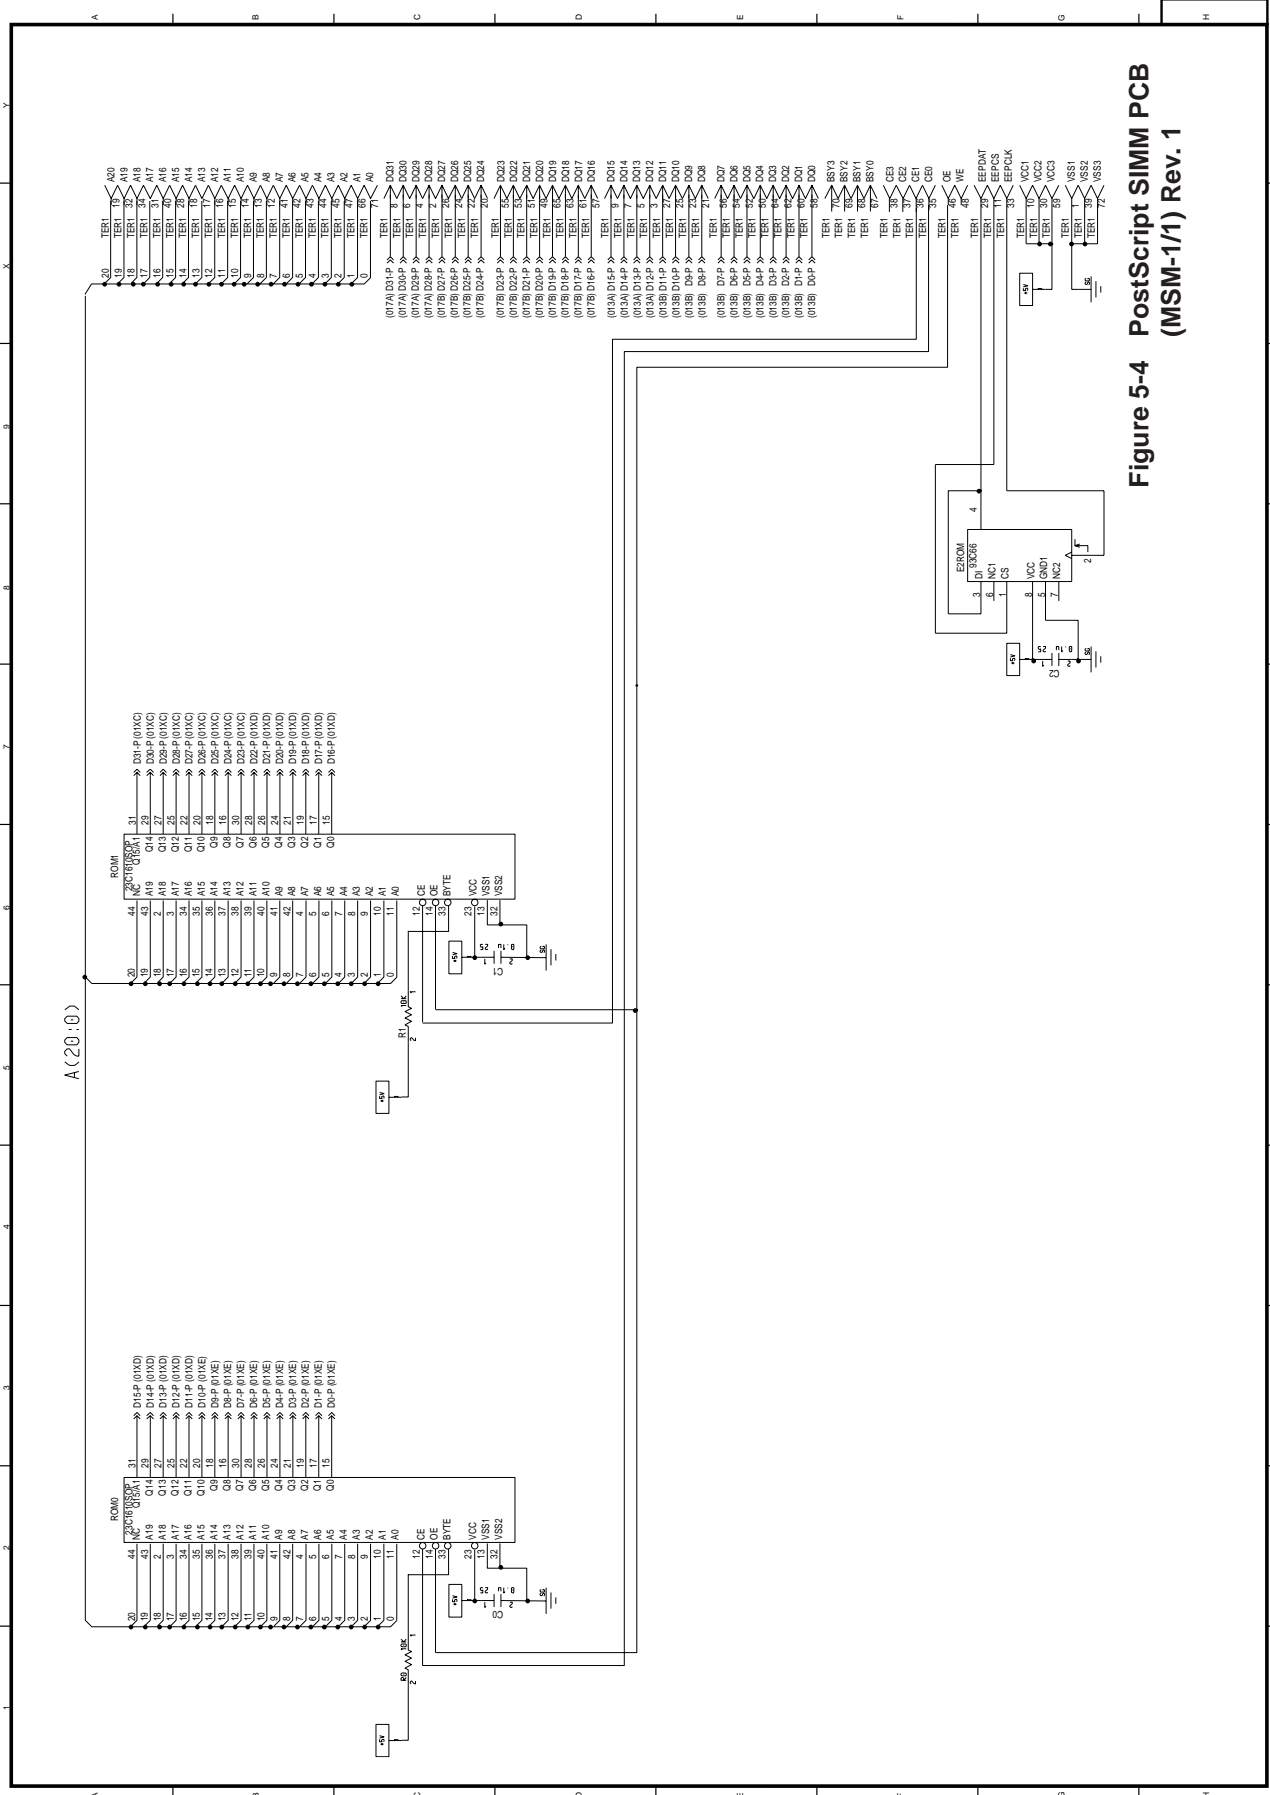

Figure 5-4 PostScript SIMM PCB (MSM-1/1) Rev. 1
- Figure 5-4(1/1) PostScript SIMM PCB (Used OTP or Mask ROM) (MSM-PCB, Rev.1)